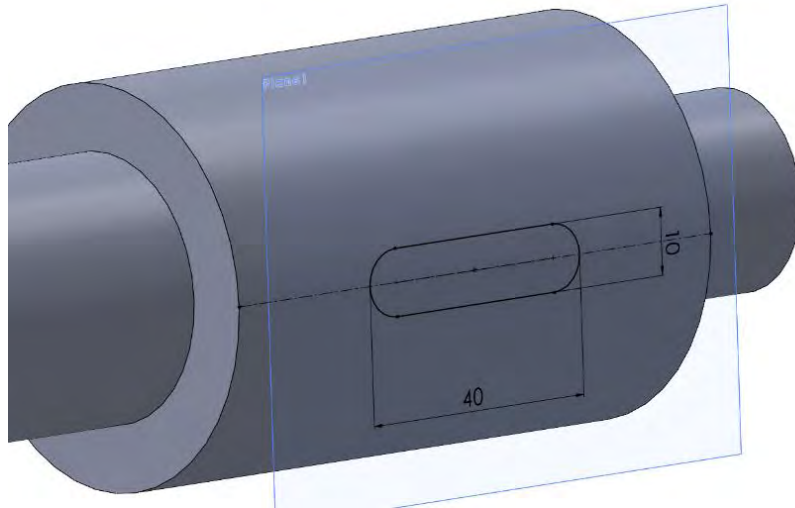

Figure 11 – Construction of a sketch of a keyway
- On the created reference plane, sketch the keyway groove (Fig. 11).